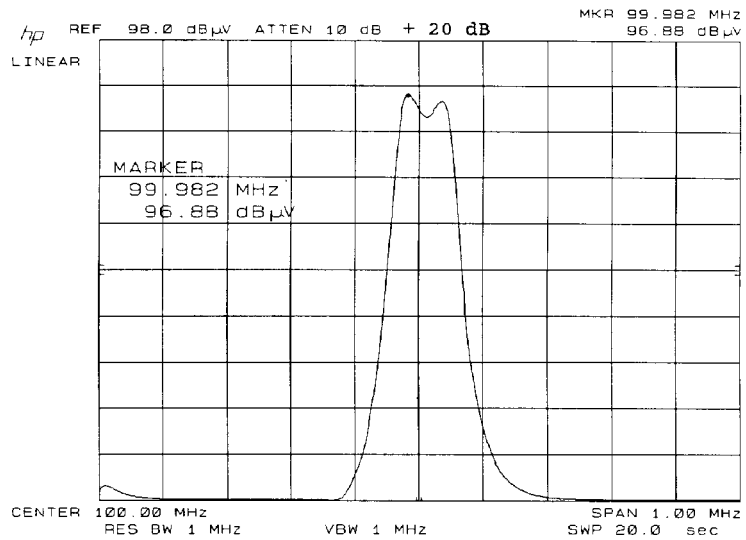

Figure 4-11. Quasi-Peak Measurement of a CW Signal
- Press **PEAK SEARCH**, on the spectrum analyzer section, and read the marker amplitude on the display. Refer to Figure 4-11.